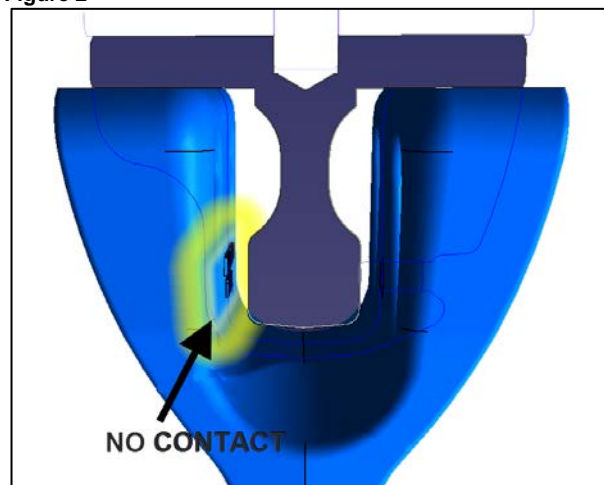

Figure 3
3. Inspect the gap between the axle and the radius rod support on the front.(Fig. 3)
4. After removing debris and protective coating, there must not be contact in zone highlighted in fig. 3.
5. Use a feeler gage set to make sure there is a gap. (Fig.3)
4. Move the support to try to create a gap. (fig. 3) **Keep the support flat on the axle.**
Use a feeler gage set to confirm there is a gap everywhere. (Fig.3)